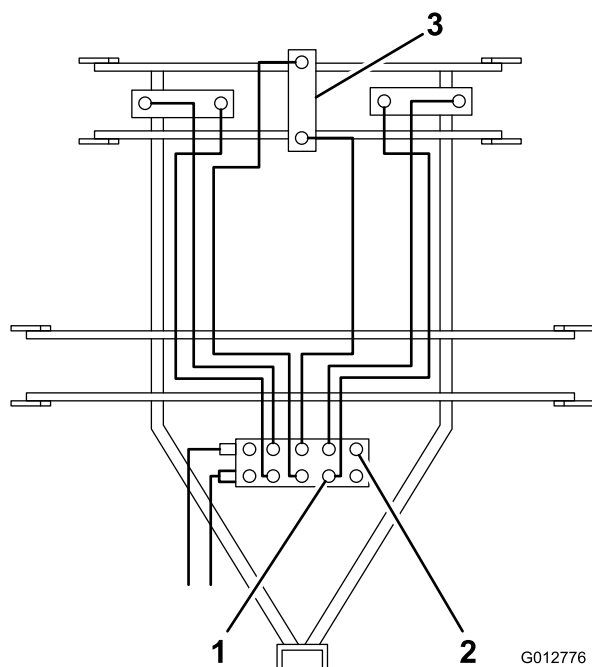

Figure 34
4. Disconnect hydraulic hoses connected to front row of control valve, Row "A" (Figure 34). Drain each hose into drain pan and reconnect to valve.
5. Disconnect hydraulic hoses connected to back row of control valve, Row "B" (Figure 34). Drain each line and cylinder by carefully pulling down lift arms until all fluid is pumped out of hoses and cylinders and into drain pan. Reconnect hoses to control valve.